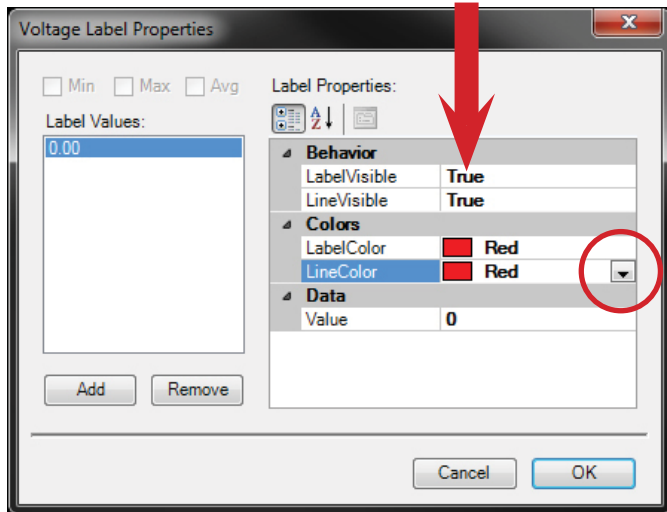
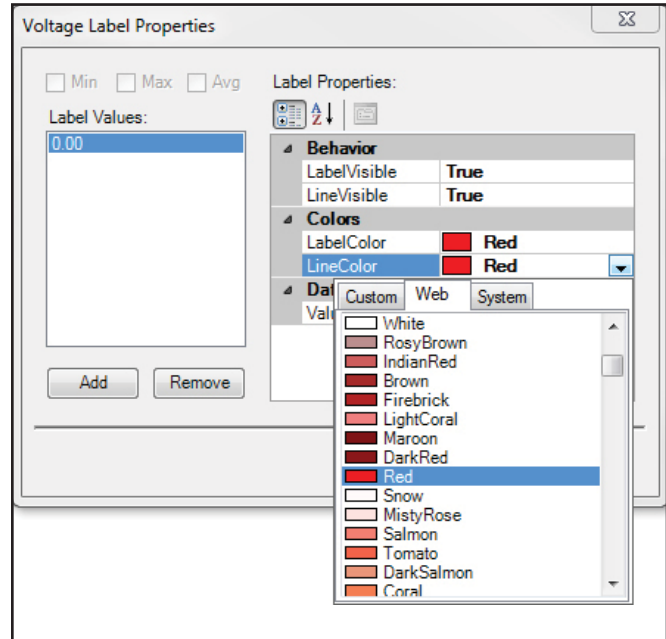

Figure 15: One can create various Chart Voltage Lines & Labels in several colors
Figure 16: Color Drop down Menu Used to Change Label & Line Colors
3. The Voltage Label Properties window opens. See Figure 15, below.
6. In “Colors” both Label and Line colors are individually selected using the drop down arrow. In Figure 15, the zero Label and Line will be Red. To change colors press the down arrow(s) to open the color selection drop down menu(s). Choose from several colors (Figure 16) for customizing lines and labels.